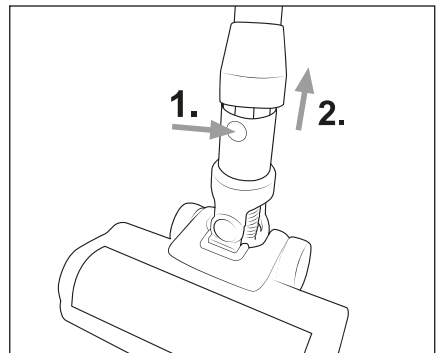

Fig. 9
- ◆ To remove the floor brush **20** from the suction pipe **23**, hold down the floor brush release button **21** and pull the suction pipe **23** off the floor brush **20** (see Fig. 9).